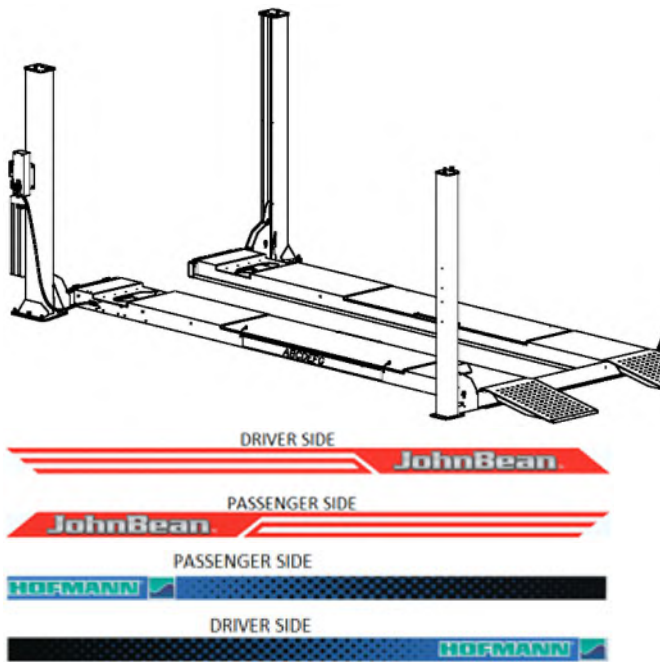

Fig 43– Decal Placement
- 98) Apply decal on the side of the Power Runway and Idler Runway as shown in **Fig 43**. Center the decal between the two real slide plate lock chains.